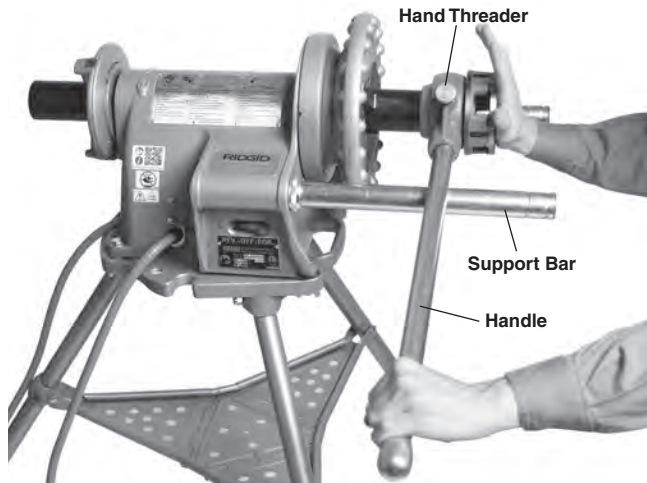

Figure 17 – Pushing Hand Threader onto Pipe to Engage Dies
Place the die head over end of pipe as shown in *Figure 17*. Rest the threader handle on switch side support bar. Hold the end of threader handle with left hand. To avoid pinch point injuries, do not place hand or fingers between the threader handle and support bar. Keep handle in contact with the support bar. Apply oil to end of pipe and dies.
2. With the palm of right hand, push against die head cover plate, holding die head against end of pipe (*Figure 17*). Depress the foot switch. Do not wear gloves, jewelry or use a rag while pushing on the cover plate – this increases the risk of entanglement and injury. Keep hand away from rotating pipe. Once the dies engage, threads will be cut as the dies pull themselves onto end of pipe.